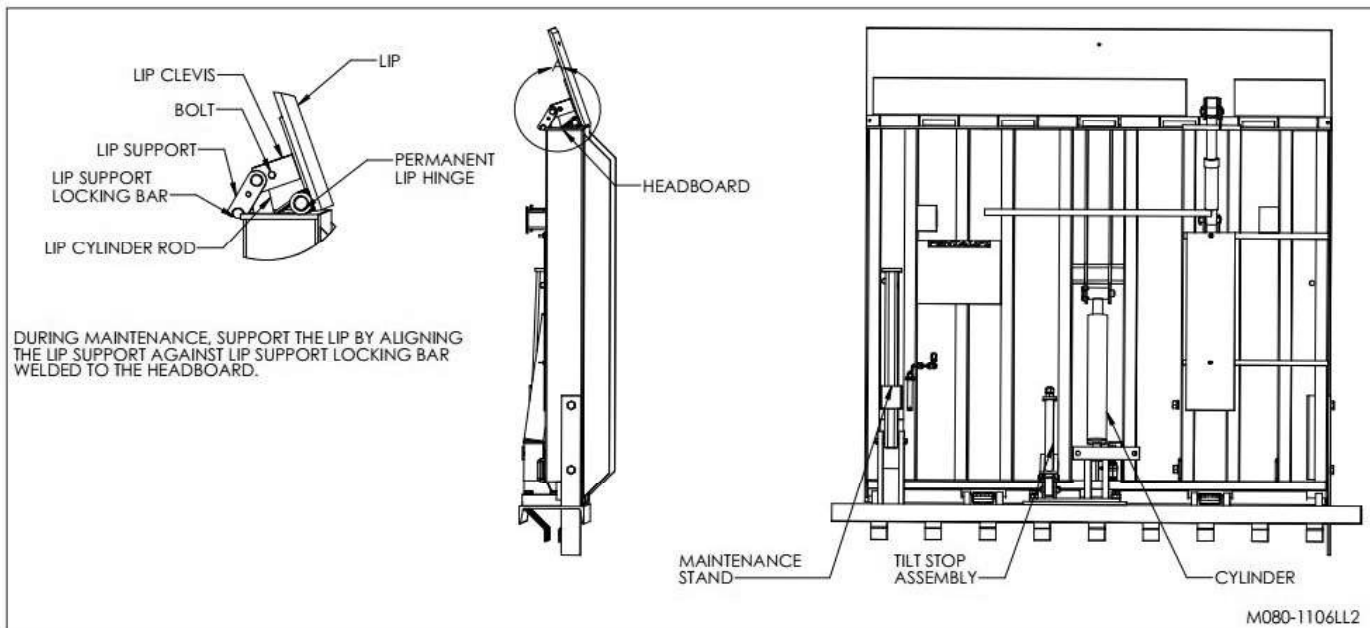

Figure 3: How to Support the Dock Leveler for Maintenance
NEVER GO INTO THE DOCK LEVELER'S OPERATING PATH FOR ANY REASON UNLESS THE DECK AND LIP ARE PROPERLY SUPPORTED (SEE "Figure 3: How to Support the Dock Leveler for Maintenance" on page 5) AND THE POWER IS DISCONNECTED WITH A FUSED DISCONNECT, PROPERLY TAGGED AND LOCKED OUT. IT IS THE RESPONSIBILITY OF THE OWNER TO ENSURE THAT NO LOAD OR TRAFFIC IS PLACED ON THE DECK WHILE THE MAINTENANCE STAND IS ENGAGED. THE CONSTRUCTION OF THE MAINTENANCE STAND IS INTENDED TO SUPPORT THE WEIGHT OF THE UNLOADED DOCK LEVELER ONLY.
2.  BEFORE ENTERING THE PIT AND ENGAGING THE MAINTENANCE STAND, ENSURE BOTH TILT BAR BOLTS ARE WELDED IN PLACE (SEE "Figure 3: How to Support the Dock Leveler for Maintenance" on page 5). NEVER REMOVE THE TILT BAR BOLTS FOR ANY REASON.
4. Remove the bolt holding the lip support in the stored position. Swing the lip support to align it with the lip support locking bar. Move the lip in so that the weight is resting on the lip support. (See "Figure 3: How to Support the Dock Leveler for Maintenance" on page 5).